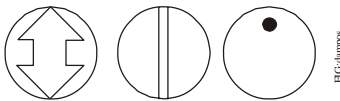

Figure 7: Damper Position Icons
1. Check that the damper blade is accessible or that its position is permanently marked on the end of the damper shaft as illustrated in Figure 7.